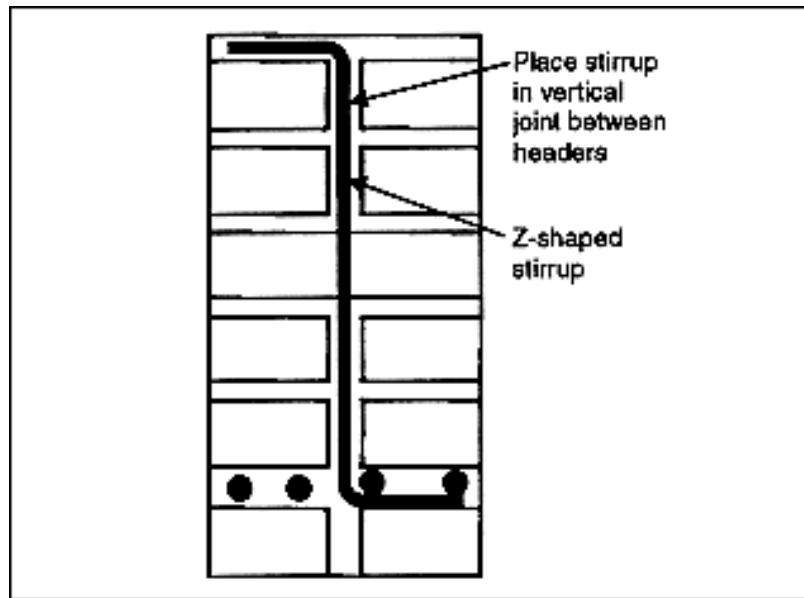

Figure 9-44. Reinforced brick-masonry beam construction
- **Stirrups.** Most stirrups are Z-shaped as shown in Figure 9-44 to fit the mortar joints. Insert the lower leg under--and contacting--the horizontal bars, which requires a thicker joint at that point.
Figure 9-44).
Step 3. Slip the legs of any stirrups under the horizontal bars as shown in Figure 9-44. Be sure to center the stirrup in the vertical mortar joint.